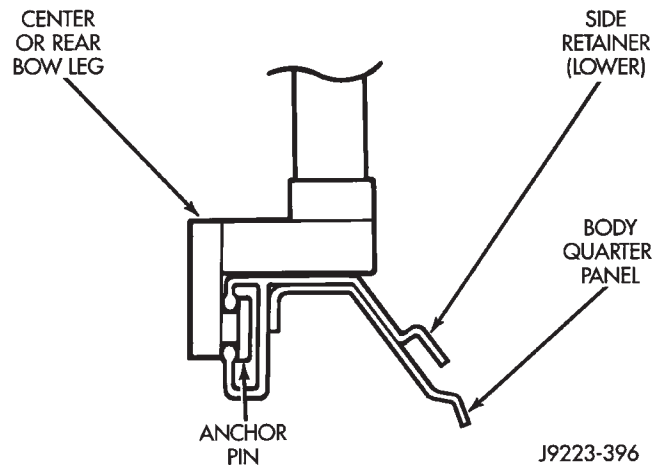

Fig. 114 Bow Leg and Anchor Pin
(2) If not stowed, position the center bow legs anchor pins in the lower side retainer receptacles (Fig. 114).